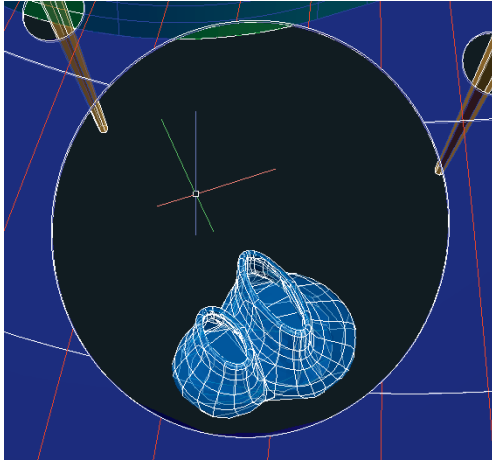

FIGURE 16.14 Orbiting for better view of subject
3. Click the Orbit tool in the Navigation bar. Drag down in the drawing canvas to orbit your point of view upward until you can see the ventilation towers unobstructed by the dome membrane (see Figure 16.14). Press Esc to end the 3DORBIT command.